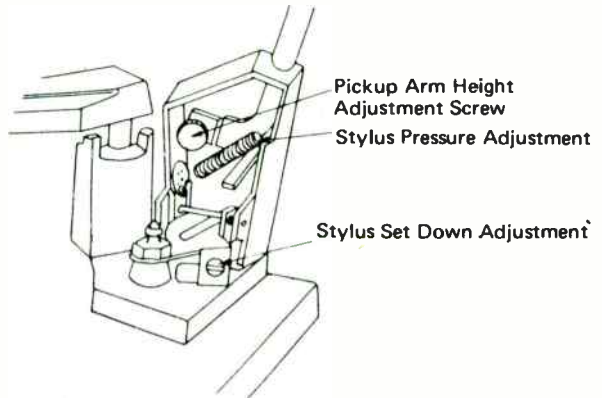

Fig. 43 PICKUP ARM ADJUSTMENT
**Stylus Set-Down:** During automatic operation the stylus sets down 1/8 inch from edge of record, Turning the stylus set down adjustment screw counter-clockwise causes the stylus to set down further in from the edge of the record. (See Fig. 43)
**Pickup Arm Height:** To raise, turn screw head by hand counter-clockwise; to lower, turn screw head clockwise. Adjust stylus to clear a full stack of records by 1/8 inch. (See Fig. 43)
**Stylus Pressure:** The needle pressure is adjusted at the factory for the correct pressure of 6 grams. Move the spring to different holes to set different pressure. (See Fig. 43)